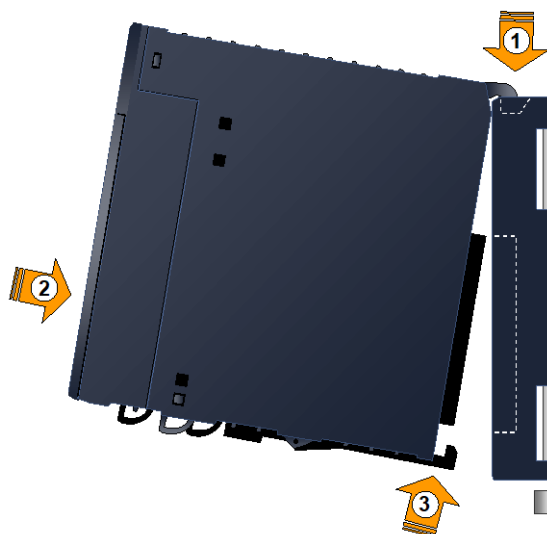

Figure 24: Installing Module in Backplane
- Engage the rear pivot hook(s) of Module (Figure 24) in the notch(es) on the top of the backplane (1).
- Swing Module down (2) until the connector of Module engages the backplane connector, and the release lever(s) on the bottom of Module snaps into place in the bottom module retainer (3).